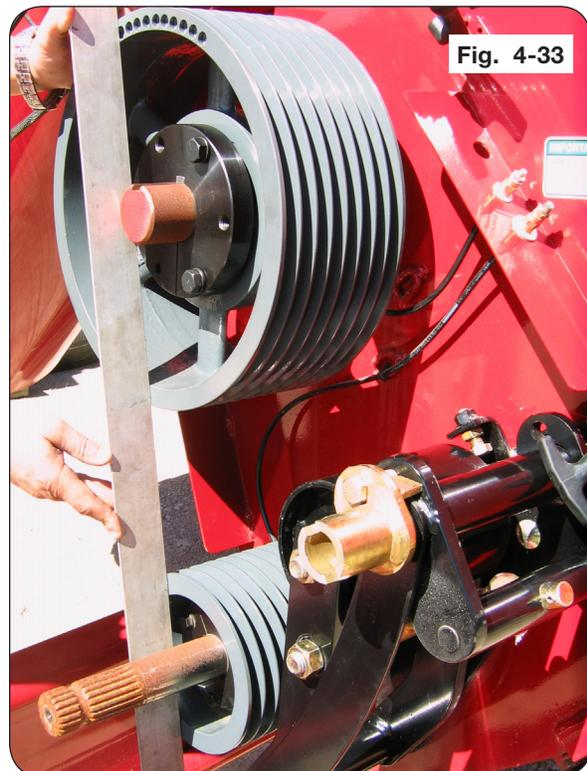

Fig. 4-33
2. After tightening taper-lock bushing hardware, lay a straight edge across face of the drive and driven belt pulleys to ensure alignment between the grooves on the pulleys. (FIG. 4-33)